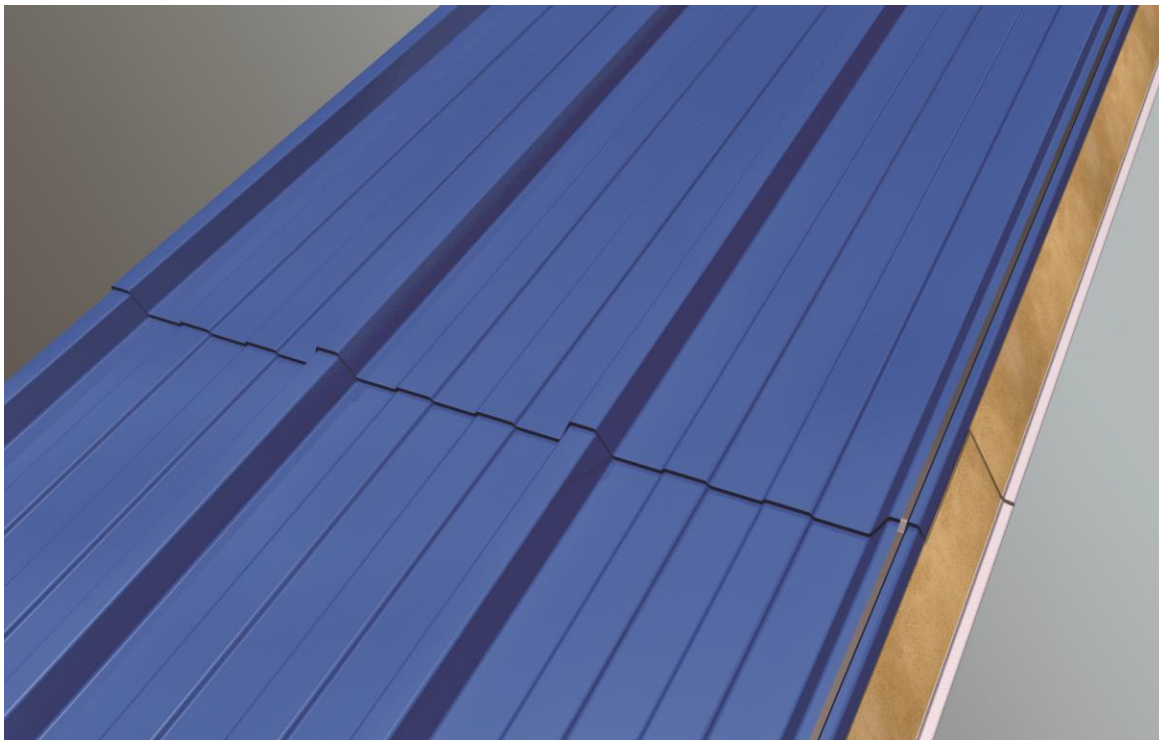

Figure 2
- Apply a run of 6 x 5mm butyl sealant to the male crown of panels one and two (figure 2, page 8).